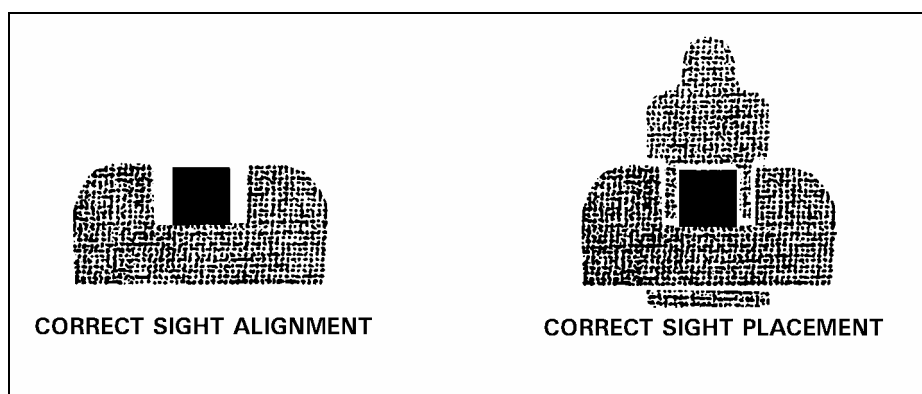

Figure 2-5. Correct sight alignment and sight picture.
Aiming is sight alignment and sight placement (Figure 2-5).
b. Sight placement is the positioning of the weapon's sights in relation to the target as seen by the firer when he aims the weapon (Figure 2-5). A correct sight picture consists of correct sight alignment with the front sight placed center mass of the target. The eye can focus on only one object at a time at different distances. Therefore, the last focus of the eye is always on the front sight. When the front sight is seen clearly, the rear sight and target will appear hazy. The firer can maintain correct sight alignment only through focusing on the front sight. His bullet will hit the target even if the sight picture is partly off center but still remains on the target. Therefore, sight alignment is more important than sight placement. Since it is impossible to hold the weapon completely still, the firer must apply trigger squeeze and maintain correct sight alignment while the weapon is moving in and around the center of the target. This natural movement of the weapon is referred to as wobble area. The firer must strive to control the limits of the wobble area through proper grip, breath control, trigger squeeze, and positioning.